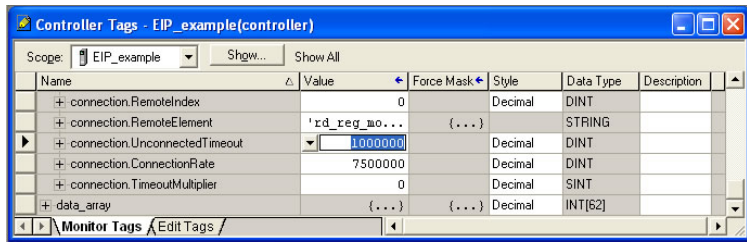

Figure 98: Reduce the UnconnectedTimeout Value
- e) Select the “Monitor Tags” tab. Expand the “connection” tag by clicking on the “+” sign next to the tag name. Scroll down to the connection.UnconnectedTimeout field and change its value from the default 3000000 (30s in 1uS increments) to 1000000 (1s). This value determines how long to wait before timing out and retransmitting a connection request if a connection failure occurs. Refer to Figure 98.